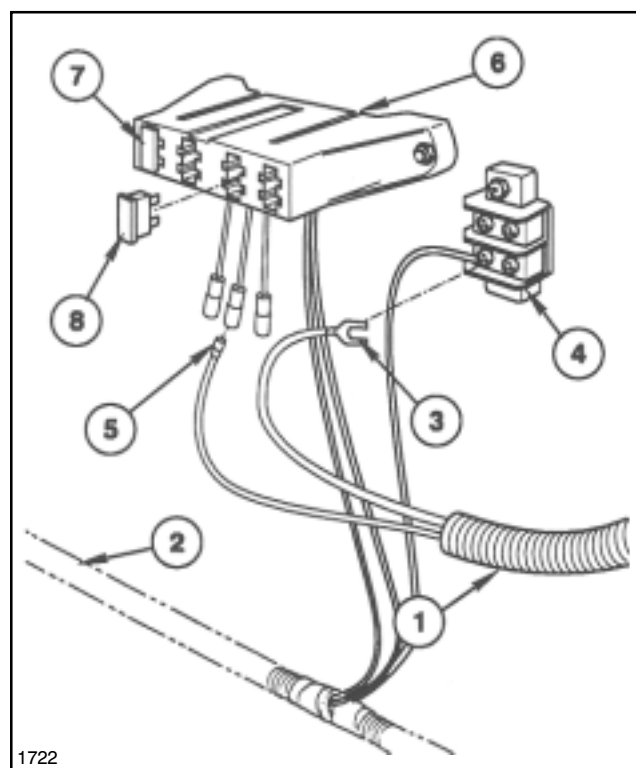

FIG. 8
5. Connect the push-on terminal on the red wire to the male terminal on the red wire coming from the Fuse Block. See FIG. 8, page 3.